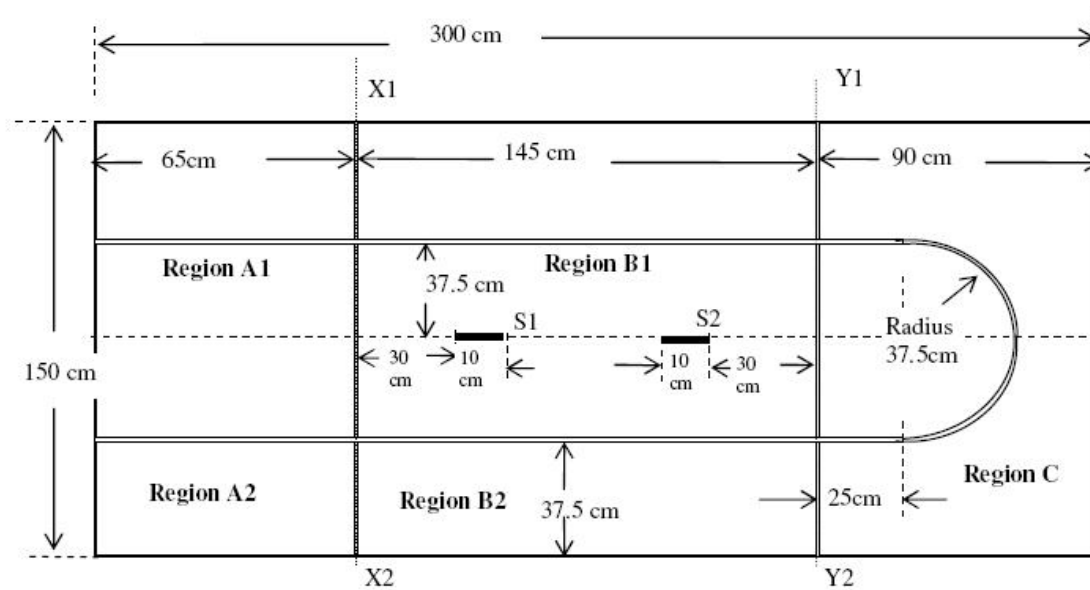

Fig.4. Pole Balancing Robot Platform
- 6.1 The robotic vehicle would operate on the top of the platform provided. Please see Fig. 4.